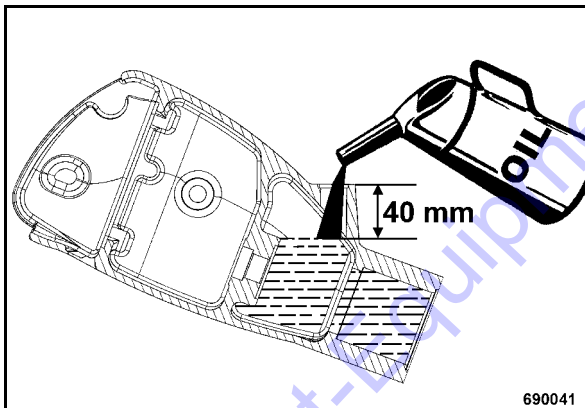

Fig. 81
- Fill in hydraulic oil to approx. 40 mm (1.6 in) below the edge of the filler opening (Fig. 81).